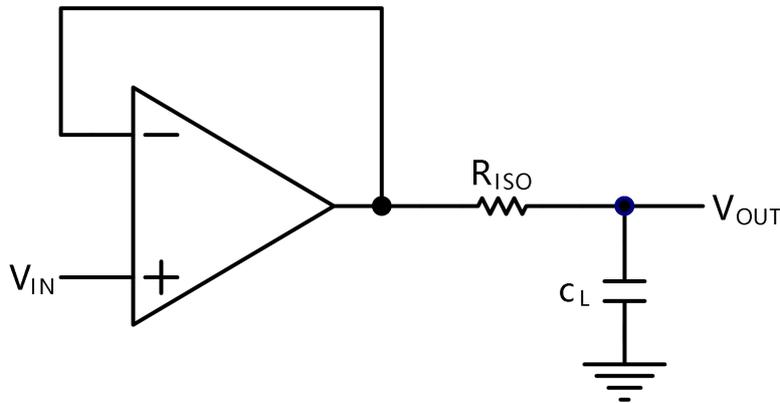
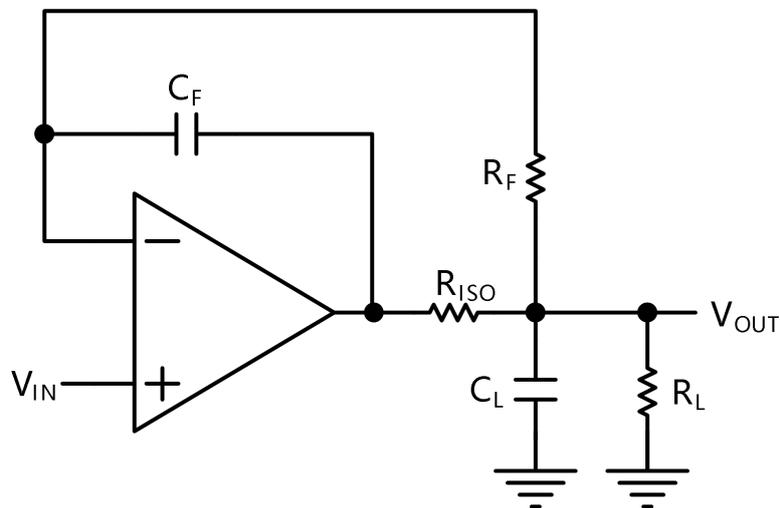

Figure 2. Indirectly Driving a Capacitive Load Using Isolation Resistor
Figure 3. Indirectly Driving a Capacitive Load with DC Accuracy
The CBM863x family is optimized for bandwidth and speed, not for driving capacitive loads. Output capacitance will create a pole in the amplifier's feedback path, leading to excessive peaking and potential oscillation. If dealing with load capacitance is a requirement of the application, the two strategies to consider are (1) using a small resistor in series with the amplifier's output and the load capacitance and (2) reducing the bandwidth of the amplifier's feedback loop by increasing the overall noise gain. Figure 2. shows a unity gain follower using the series resistor strategy. The resistor isolates the output from the capacitance and, more
The circuit in Figure 3 is an improvement to the one in Figure 2. R_F provides the DC accuracy by feed-forward the V_{IN} to R_L . C_F and R_{ISO} serve to counteract the loss of phase margin by feeding the high frequency component of the output signal back to the amplifier's inverting input, thereby preserving the phase margin in the overall feedback loop. Capacitive drive can be increased by increasing the value of C_F . This in turn will slow down the pulse response.